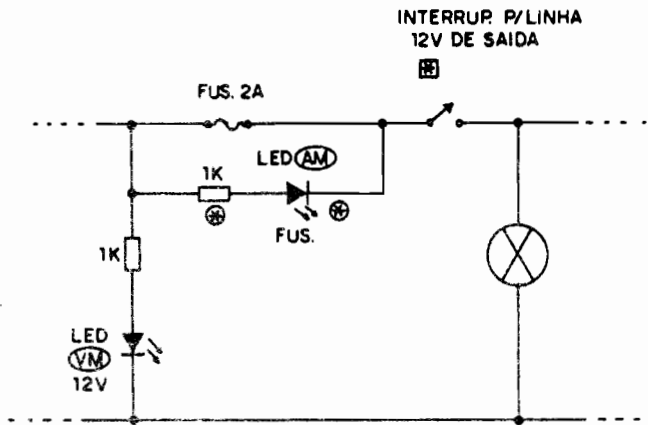

Fig.6
- **FIG. 6 - ALGUNS ACRÉSCIMOS,**